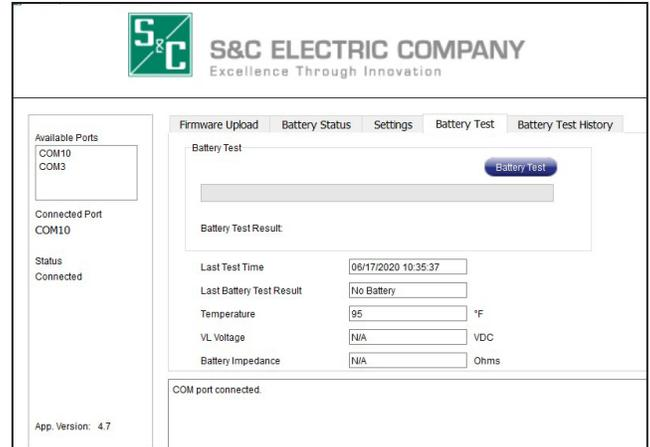

Figure 9. The *Battery Test* screen.
- STEP 2.** Run a battery test by clicking on the **Battery Test** button in the **Battery Test** tab. See Figure 9 on page 13.
The *Battery Test* screen can be accessed by clicking on the **Battery Test** tab. This screen is used to conduct a battery test. See Figure 9.
<p>During the first 24-hour operation period, with ac power present, the battery is automatically tested every two hours. After that, when ac power is present and the charger is turned on, the battery is tested once a day at midnight (per the time on the charger). If the battery is powering the charger because of a loss of ac source, a battery test will occur every two hours. The battery test is used to measure effective battery capacity and can be started remotely with the GUI application Battery Test command, as shown in Figure 9, by the Battery Test Start input relay through the J2 connector, or by the BAT TEST pushbutton on the charger, as described in Appendix A on page 23</p>
- STEP 5.** Using the **Battery Status** tab in the GUI application (Figure 9 on page 13), click on the **Alarm Reset** button to reset the charger. A pop-up window will ask, “Do you want to override the BAT (battery) records?” Selecting the **No** option means the battery records will not be overwritten. Selecting the **Yes** option means all battery records will be deleted and new battery records will be stored. This enables the charger to connect to the battery.